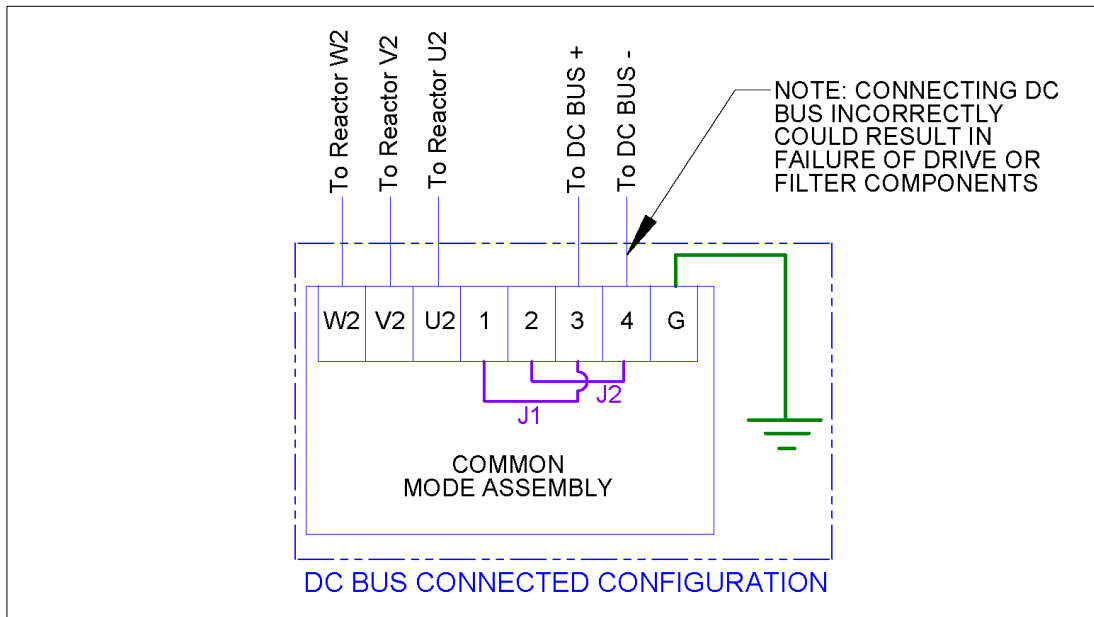
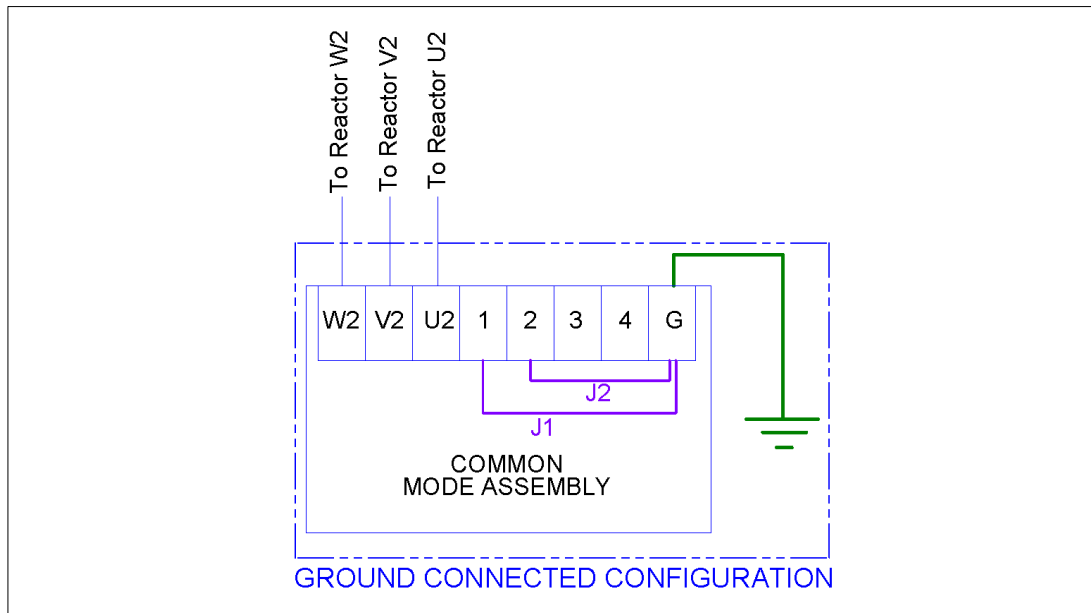

Figure 5-5: DC Bus Connected Configuration
Figure 5-6: Ground Connected Configuration
With a solidly grounded wye or high resistance grounded wye transformer secondary, we recommend using the ground connected configuration, shown in Figure 5-6: Ground Connected Configuration (p28). The common mode assembly is connected in this configuration by default.
With a floating wye transformer secondary or with a delta transformer secondary, we recommend using the DC Bus connected configuration, shown in Figure 5-5: DC Bus Connected Configuration (p28).
If this information is not available, we recommend using the DC Bus Connected Configuration, shown in Figure 5-5: DC Bus Connected Configuration (p28).
**See Figure 5-5 (p28) and Figure 5-6 (p28) for Common Mode Assembly connection diagrams
See Figure 5-5 (p28) and Figure 5-6 (p28) for Common Mode Assembly connection diagrams